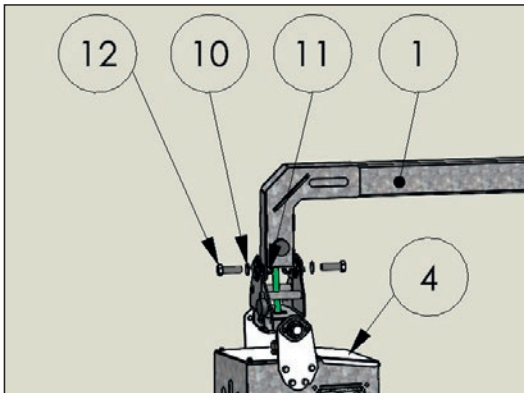

Figure 4: Mounting the brush with the drive unit.
2. Screw the drive unit (Item 4, Fig. 4) using the screws (Item 12, Fig. 4), washers (Item 10, Fig. 4) and nuts (Item 11, Fig. 4) to the suspension arm (Item 1, Fig. 4).